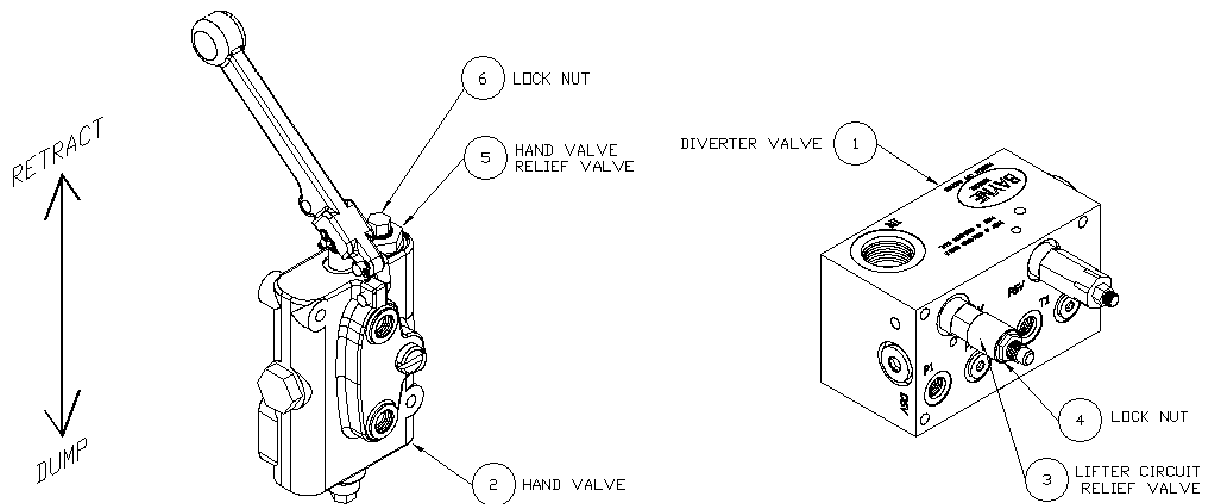
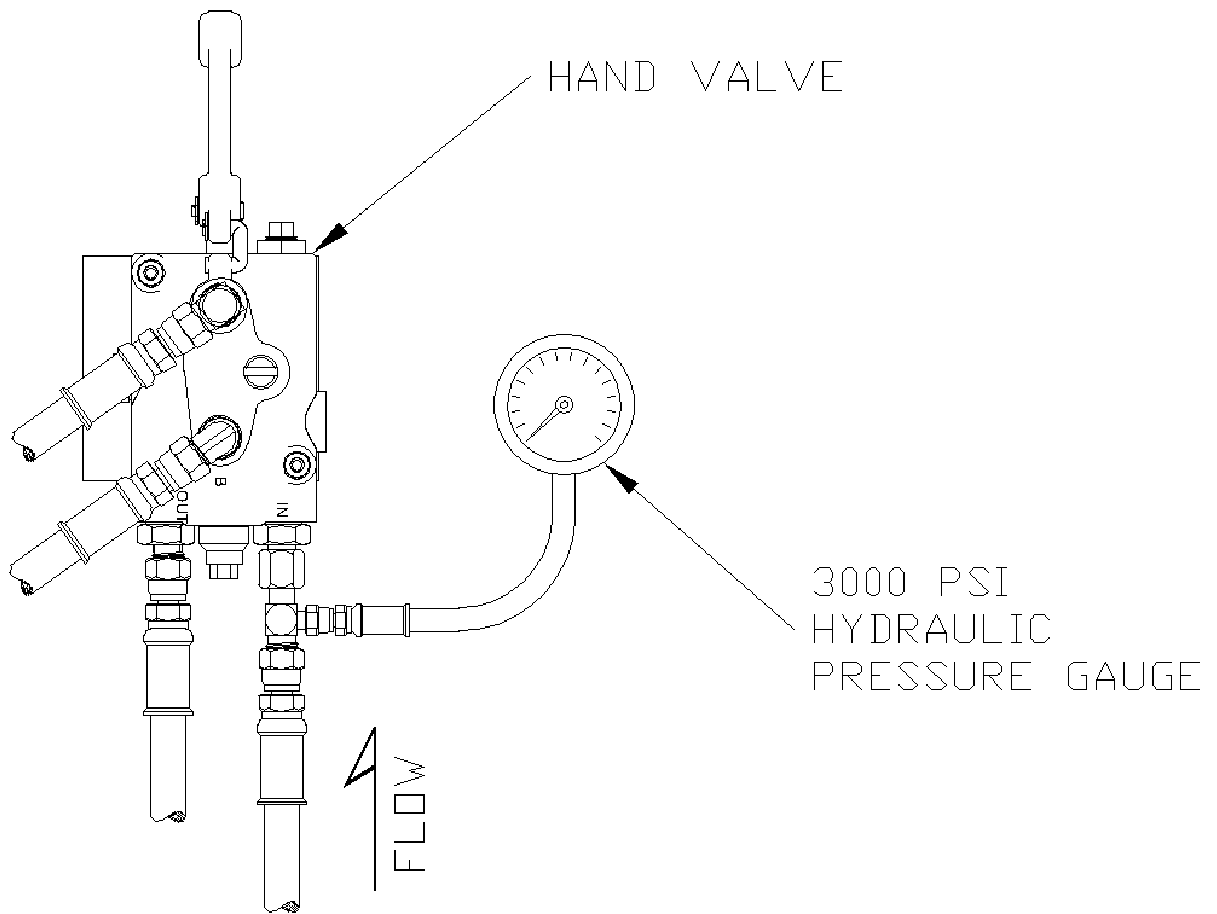

figure I-4
figure I-5
The diverter valve (1) (figure I-4) supplies the cart lifter hydraulic system with approximately 2 GPM of oil flow. This diverter valve is equipped with a lifter circuit relief valve (3) set at 2300 psi, to prevent the diverter valve from shutting down if a blockage occurs in the lifter circuit. There is also a relief valve (5) set at 1800 psi in the hand valve (2) to protect the lifter from excessive pressure. These relief valves are preset from the factory to operate properly on most trucks with a system pressure between 2300 and 2500 psi without any adjustment. However, if any adjustment is necessary, follow these instructions.
2. Loosen lock nut (6) (*figure I-4*) from the hand valve relief valve(s) (5) and turn the adjustment screw(s) clockwise until it bottoms out.
3. Loosen the lock nut (4) (*figure I-4*) on the lifter circuit relief valve (3) and turn the adjustment screw clockwise until it bottoms out.
5. Operate the handle on the hand valve (2) (*figure I-4*) back and forth a few times to bleed all air from the lifter hydraulic system.
7. Install the 3000 psi hydraulic pressure gauge with the necessary adapter in the hydraulic line connected to the "IN" port of the hand valve as shown in figure I-5. *If installing dual lifters, install the hydraulic gauge at either one of the hand valves.*
- a) Have an assistant hold the handle on the hand valve (2) (*figure I-4*) (*with pressure gauge installed at the "IN" port*) in the "retract" position to show pressure on the gauge.
- b) Turn the pressure relief adjusting screw on the lifter circuit relief valve (3) counter-clockwise until the pressure reading on the gauge is either 100 psi less than the truck system pressure or 2300 psi, which ever is the lowest.
- a) Hold a handle on the hand valve (2) (*figure I-4*) (*with pressure gauge installed at the “IN” port*) in the “retract” position to show pressure on the gauge.
- b) Turn the pressure relief adjusting screw on the hand valve relief valve (5) counter-clockwise until the pressure reading on the gauge is either 200 psi less than truck system pressure or 1800 psi, which ever is the lowest.
- f) *For dual lifters, install the hydraulic pressure gauge in the “IN” port of the other hand valve as shown in figure I-5, start the truck’s engine, engage the hydraulic system, and repeat step 10.*
11. Reinstall the cap nut(s) (6) (*figure I-4*) on the hand valve relief valve(s) (5) to secure the correct pressure setting(s).
12. Tighten the lock nut (4) (*figure I-4*) on the lifter circuit relief valve (3) to secure the correct pressure setting.